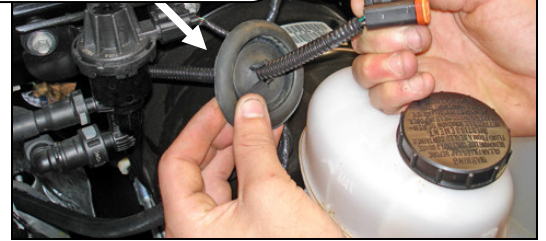

Figure 15
15. Install the rubber grommet onto the engine room side of the gauge pod harness (see Figure 15). Then re-install the rubber grommet into the engine room wall hole.